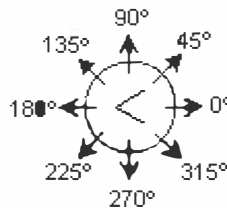

Figure 2-5
- You can use the AutoCAD angle scheme (shown in Figure 2-5) to help type the polar coordinates as **distance<angle** without needing to move the cursor to display the angle on the screen.